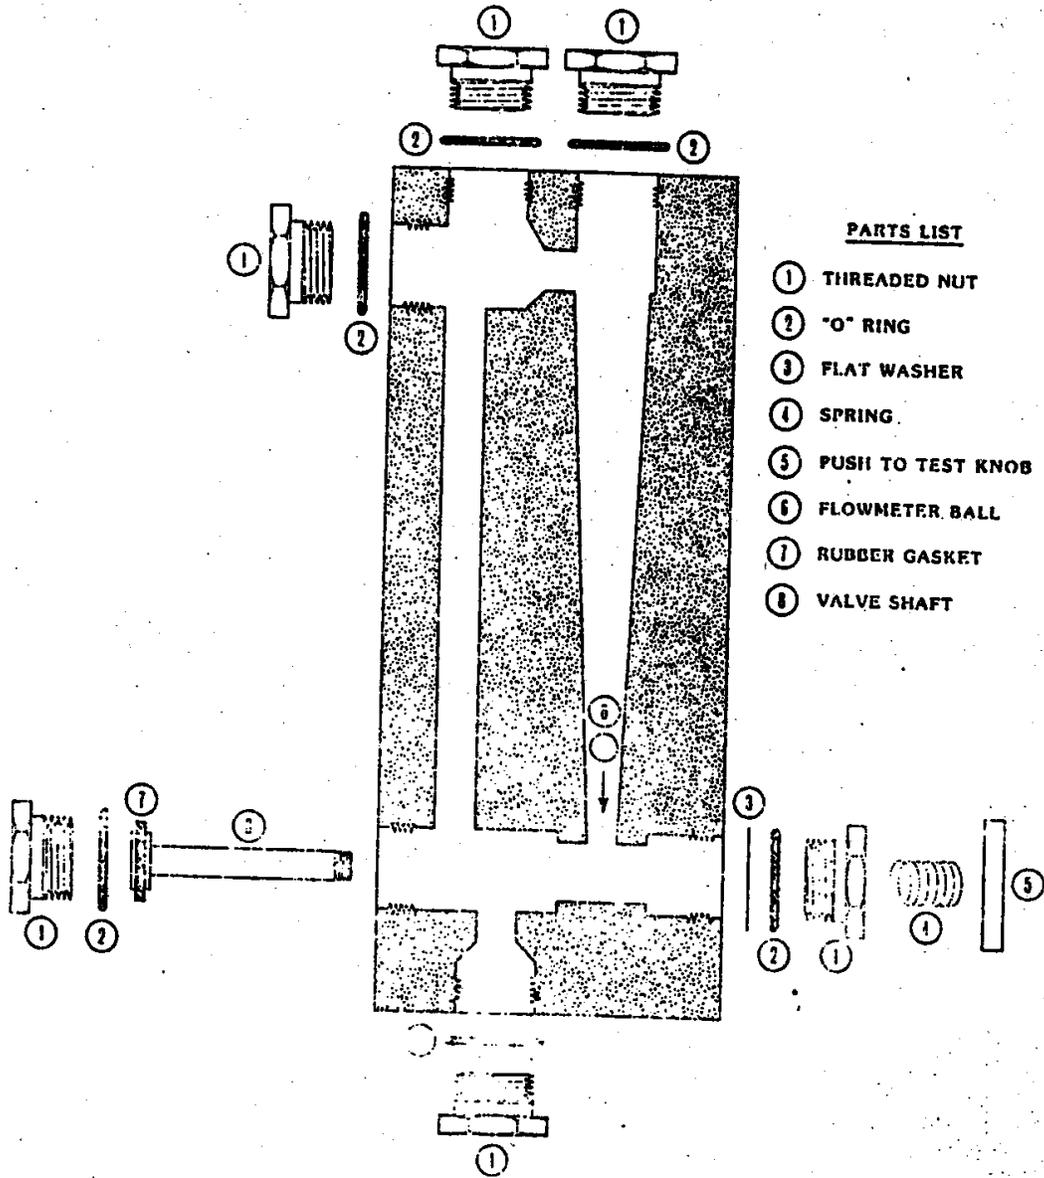

Figure K.1.3.4
K.1.3.3 FLOW METER - Check the flow meter and tubing semi-annually. As necessary clean internal components with mild cleaning fluid (soap and water), rinse with distilled water, and dry. Refer to Figure K.1.3.4 to remove various flow meter components. The flow meter may require more frequent cleaning in highly contaminated environments. Reassemble flow meter components per assembly sequence depicted in Figure K.1.3.4. Replace "O" rings as necessary. Flow meter "O" ring kit may be obtained from the Instrumentation and Standards Laboratory stockroom in Sacramento.